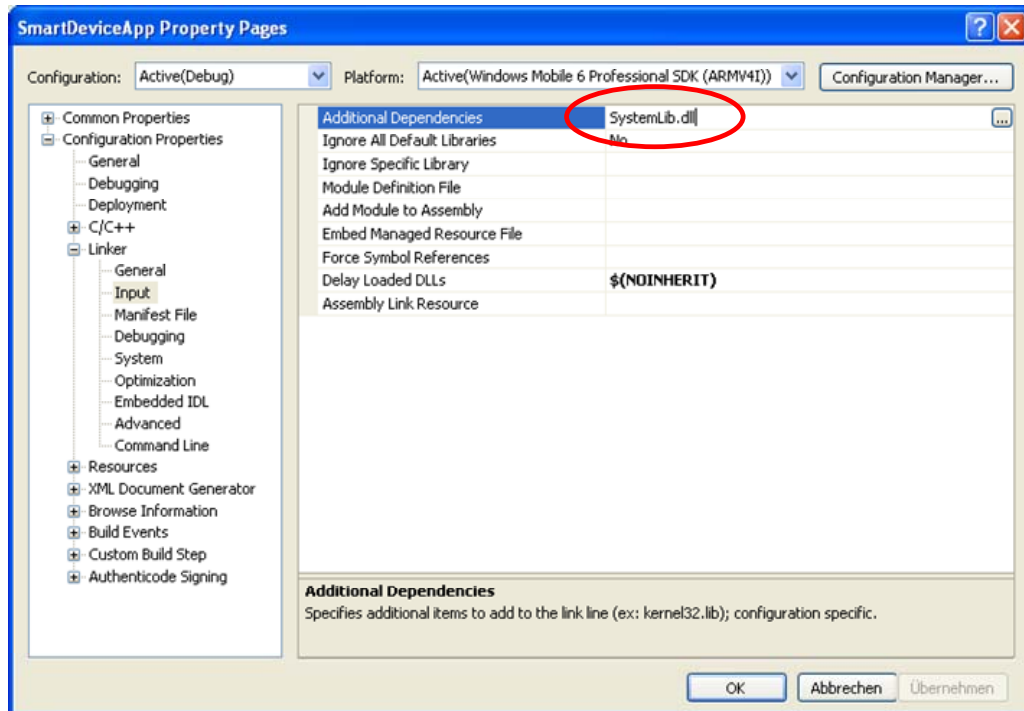

Figure 8.4
7. Choose **Properties** in the Project of Visual Studio 2008 or Visual Studio 2005, and navigate to **Configuration Properties** → **Linker** → **Input** → **Additional Dependencies** and then append **SystemLib.lib** (see red circle in Figure 8.4).